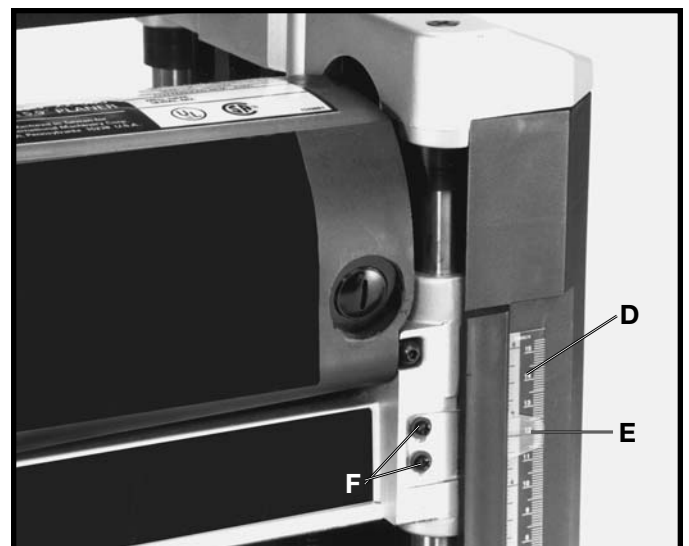

Fig. 17
A dual English/Metric scale (D) Fig. 17, and pointer (E) is conveniently located on the front of the machine and indicates the thickness of the finished workpiece. Adjustment to the pointer can be made by running a piece of wood through the machine. Measure the thickness of the workpiece and if an adjustment is necessary, loosen two screws (F) and adjust pointer accordingly. Then tighten two screws.